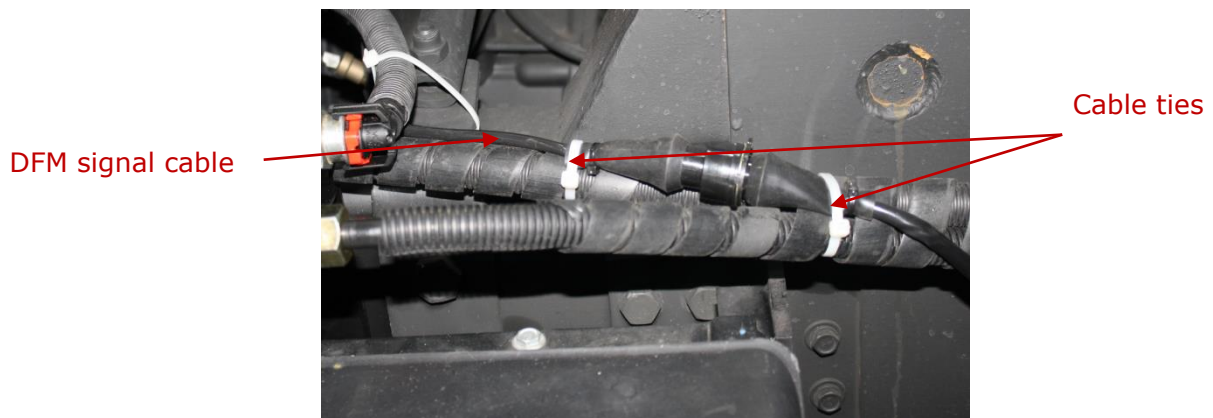

Figure 31 — Laying DFM signal cable
- 5) It is **strongly recommended** to lay DFM connection cable together with standard electrical vehicle wiring with mandatory cable ties fixing of every 50 cm (see figure 31).